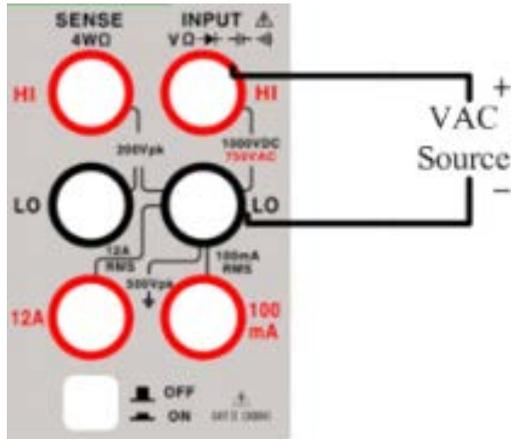

Figure 2.1.4 ACV terminal connection
2. According to Figure 2.1.4, connect the red and black test leads respectively to the proper input terminals.